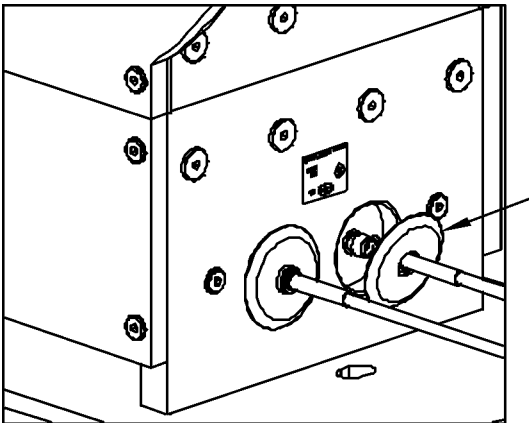

Figure 10: Antenna Cables and Seals
- Connect the cables to the LRP2000 and slide the over the connector as shown in Figure 10.